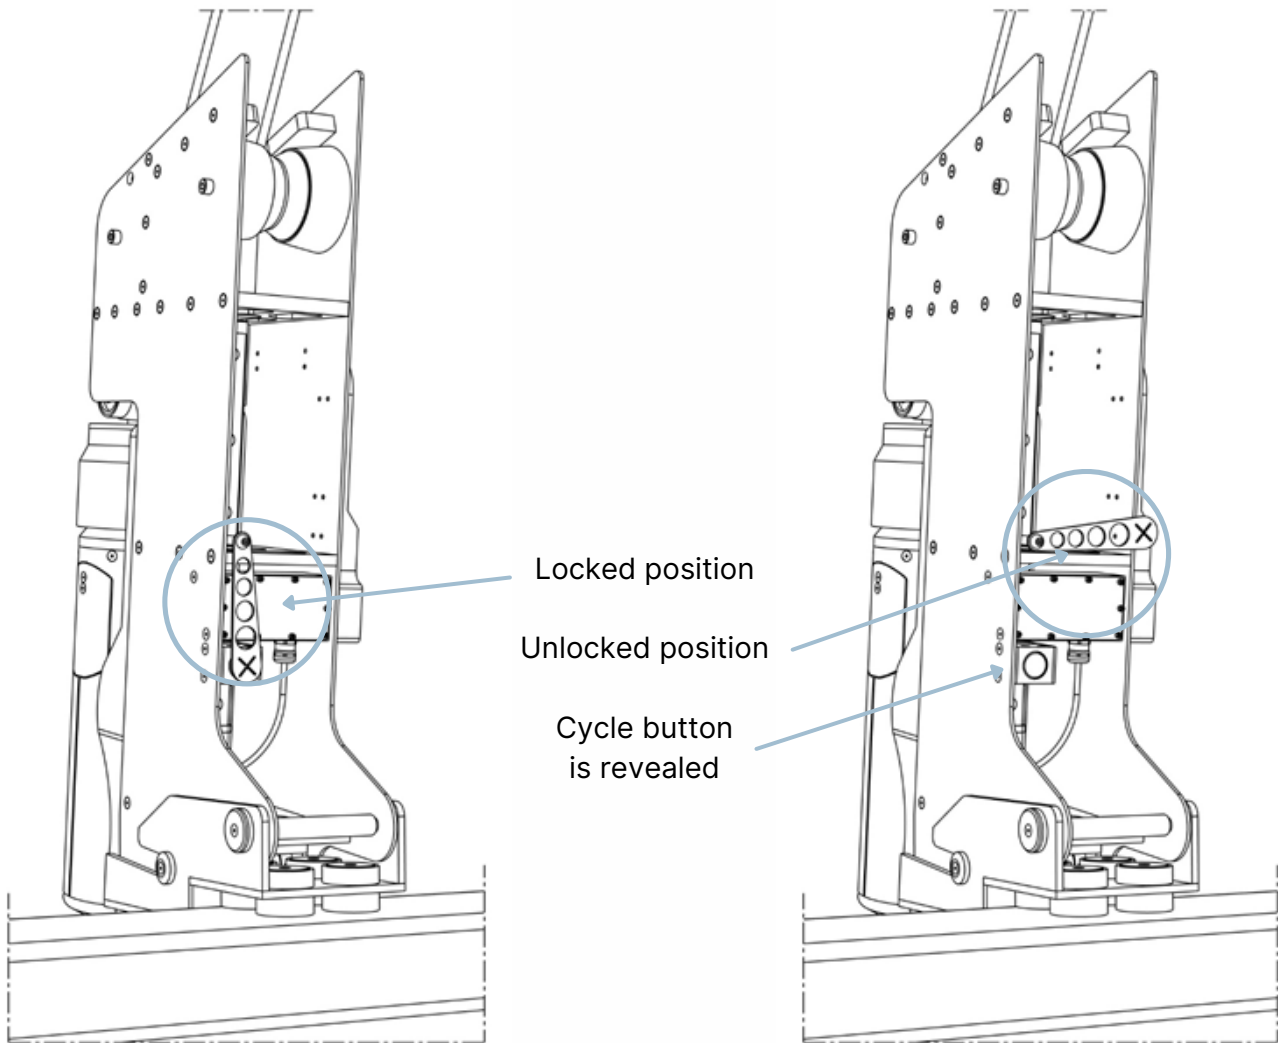

Figure 2.3. Turn the locking bolt into the unlocked position, so the cycle button can be pressed to move the traveller.
- 9 Turn the locking bolt holding the traveller in the HOME position on the head unit to the unlocked position (Figure 2.3).